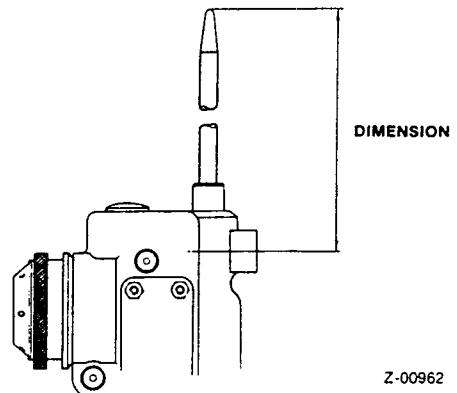

Fig 13 Correct assembly of shackle release plunger
► 18.19 With the time-release unit in the cocked condition and the shackle release plunger pushed down as far as it will go, check for correct assembly of the shackle release plunger and harness release plunger by measuring the distance from the centre line of the top mounting holes in the case, to the top of the shackle release plunger (fig 13): correct dimension should be listed in Table 4.
TABLE 4 INDICATOR TABLE FOR CHECKING CORRECT DIMENSION OF SHACKLE RELEASE PLUNGER, REFER TO FIG 13.